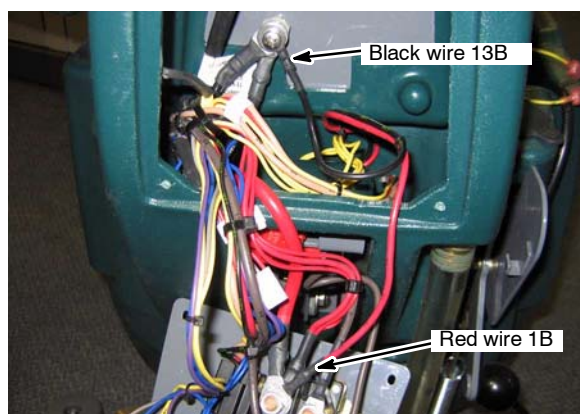

Fig. 1
1. Remove the control console panel to access internal wiring (Figure 1).